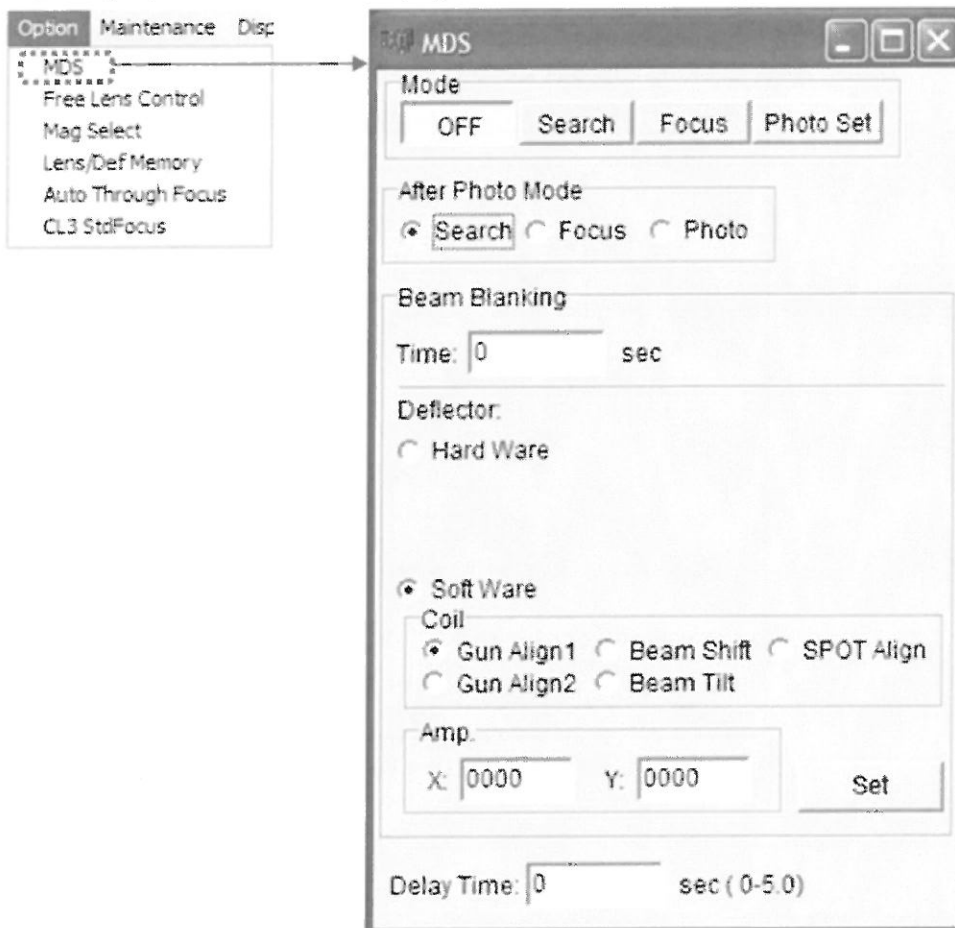

Fig. 5.65 MDS window
- a. Display the MDS window (Fig. 5.65,  Sect. 4.4.7j).